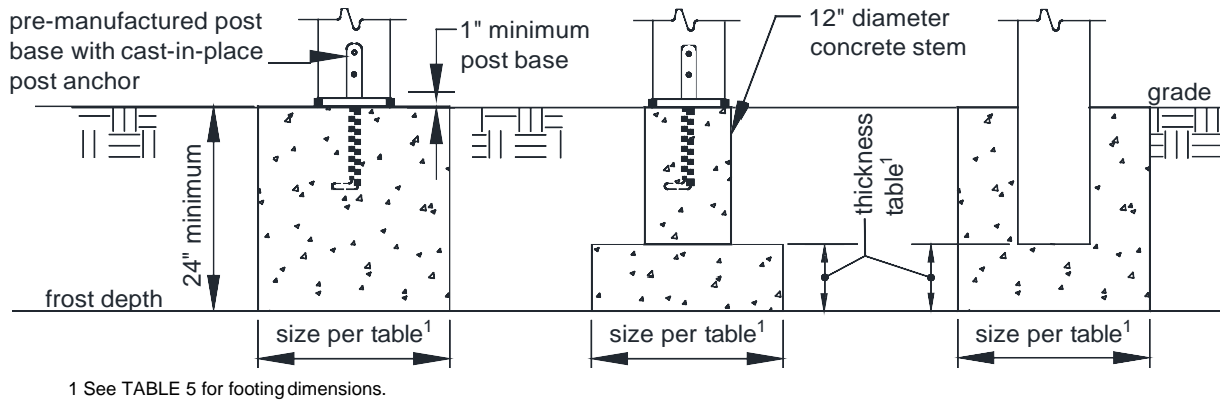

FIGURE 15: FOOTINGS
- Post attachment requirements shall be in accordance with FIGURE 15.